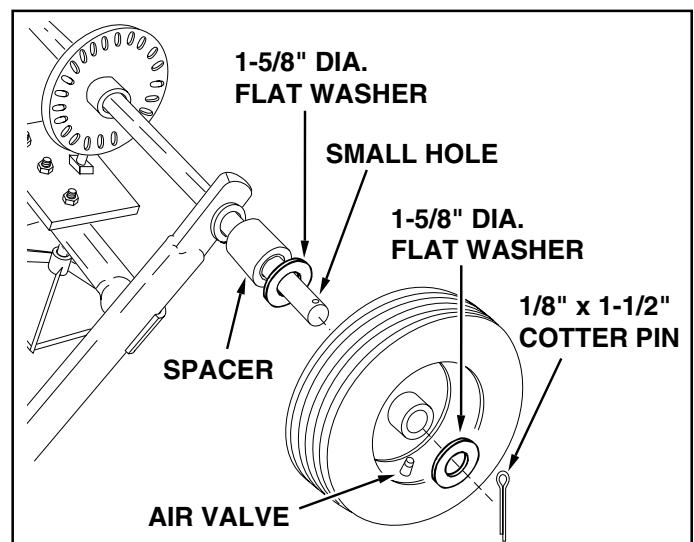

FIGURE 3
7. Assemble a spacer and a 1-5/8" flat washer onto the end of the axle that has the small hole. See figure 3.
8. Turn the idler wheel (no hole in hub) so that the air valve faces out. Place onto the axle and secure with a 1-5/8" dia. flat washer and a 1/8" x 1-1/2" cotter pin. Use the extra washer if needed to take up play. See figure 3.